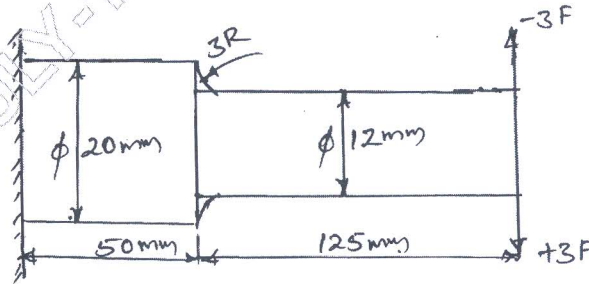

Fig.Q4
- 4 A cantilever beam is subjected to a load varying from $-F$ to $+3F$ as shown in Fig.Q4. Determine the maximum load that the member can withstand for infinite life. The material of the beam is cold drawn SAE 1025 has the following properties. FOS = 2, Notch sensitivity = 0.9, size factor = 0.85, surface finish factor = 0.88, $\sigma_u = 550\text{MPa}$, $\sigma_y = 470\text{MPa}$ and $\sigma_{en} = 275\text{MPa}$. (16 Marks)